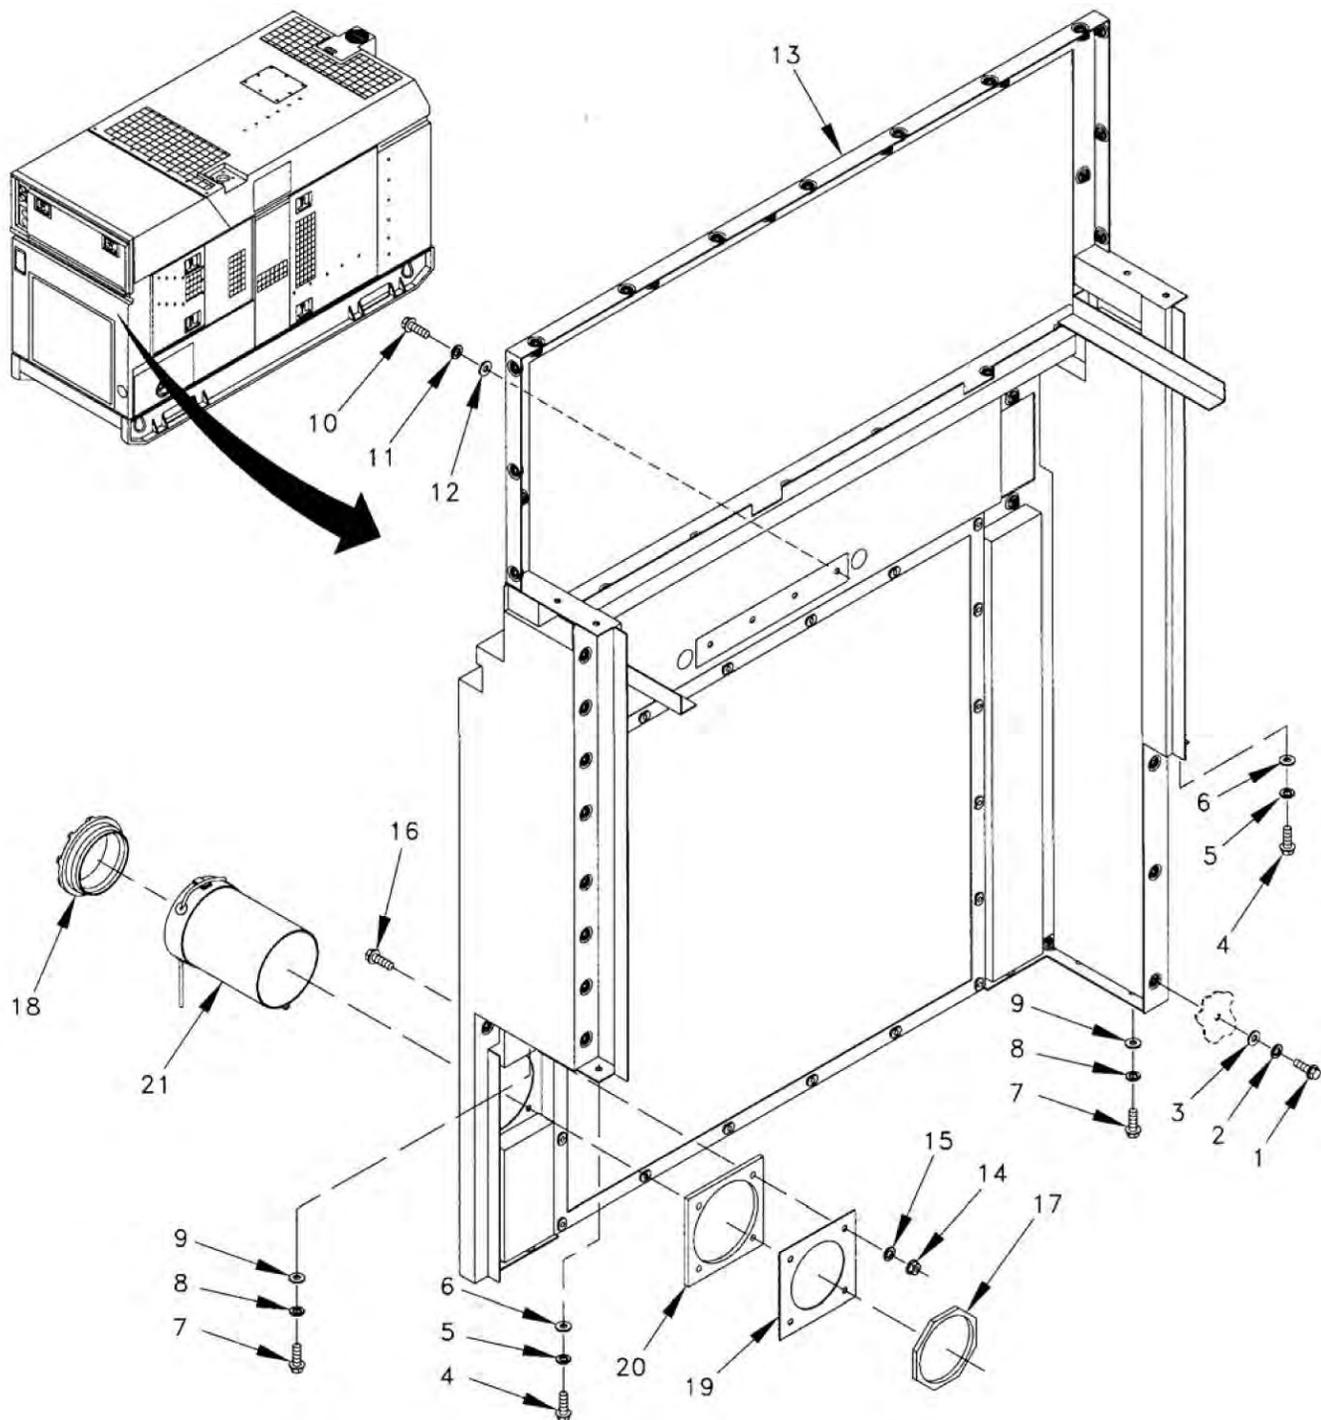

Figure 1. Rear Section Housing Assembly.
1. Remove three screws (Figure 1, Item 1), lock washers (Figure 1, Item 2), and washers (Figure 1, Item 3).
2. Remove two screws (Figure 1, Item 4), lock washer (Figure 1, Item 5), and washer (Figure 1, Item 6).
3. Remove six screws (Figure 1, Item 7), lock washers (Figure 1, Item 8), and washers Figure 1, Item 9).
4. Remove four screws (Figure 1, Item 10), lock washers (Figure 1, Item 11), and washers (Figure 1, Item 12) and rear section housing assembly (Figure 1, Item 13).
1. Remove four nuts (Figure 1, Item 14), washers (Figure 1, Item 15), screws (Figure 1, Item 16), lockring (Figure 1, Item 17), bushing (Figure 1, Item 18), retainer plate (Figure 1, Item 19), spacer (Figure 1, Item 20), and sleeve (Figure 1, Item 21).
2. Install sleeve (Figure 1, Item 21), spacer (Figure 1, Item 20), retainer plate (Figure 1, Item 19), bushing (Figure 1, Item 18), lockring (Figure 1, Item 17), four screws (Figure 1, Item 16), washers (Figure 1, Item 15), and nuts (Figure 1, Item 14).
1. Install rear section housing assembly (Figure 1, Item 13).
2. Install four screws (Figure 1, Item 10), lock washers (Figure 1, Item 11), and washers (Figure 1, Item 12) to rear section housing assembly (Figure 1, Item 13).
3. Install six screws (Figure 1, Item 7), lock washers (Figure 1, Item 8), and washers (Figure 1, Item 9).
4. Install two screws (Figure 1, Item 4), lock washer (Figure 1, Item 5), and washer (Figure 1, Item 6).
5. Install three screws (Figure 1, Item 1), lock washers (Figure 1, Item 2), and washers (Figure 1, Item 3).